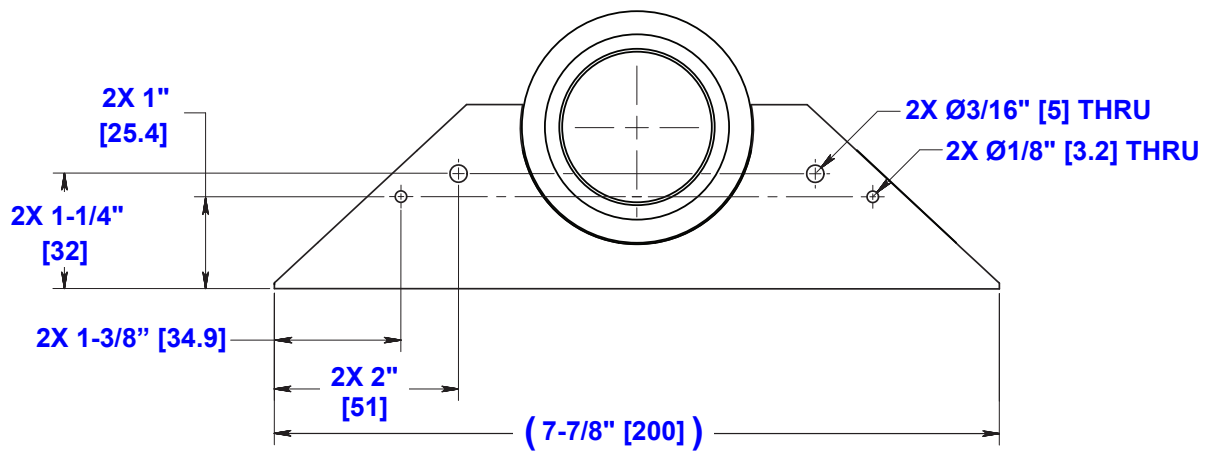

Figure 3: Holes on cylinder mounts
- Drill four (4) additional holes through both cylinder mounts as shown in Figure 3 detail drawing. Chamfer any sharp edges of these holes so the safety wire doesn't get cut.